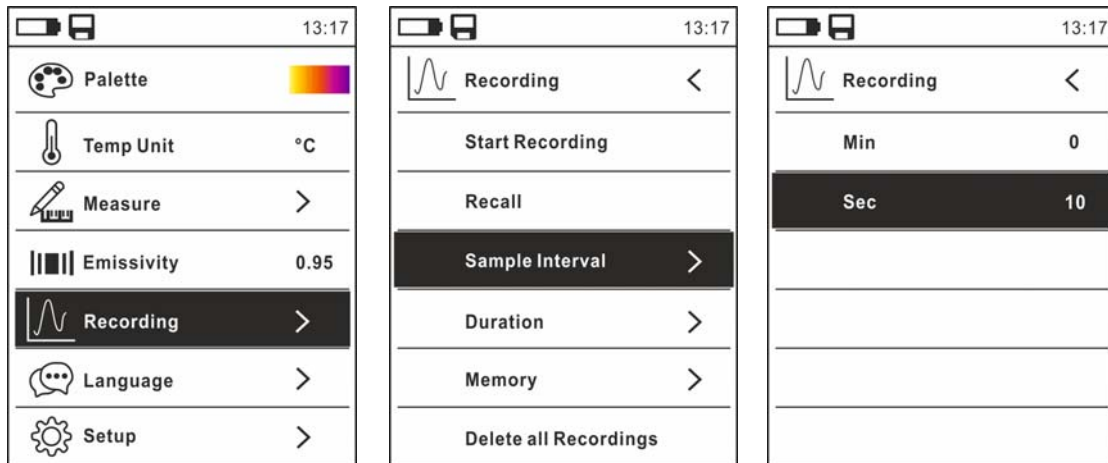

Fig. 31: Data logger function – Setting of the sampling interval
2. Press key **MENU** , select item "Recording" and press key **▶**. The screen in Fig. 31 – left side appears on the display.
3. Select item "Sample Interval" (see Fig. 31 – middle) and press key **▶** to select the sampling interval for recording. The screen in Fig. 31 – right side appears on the display.